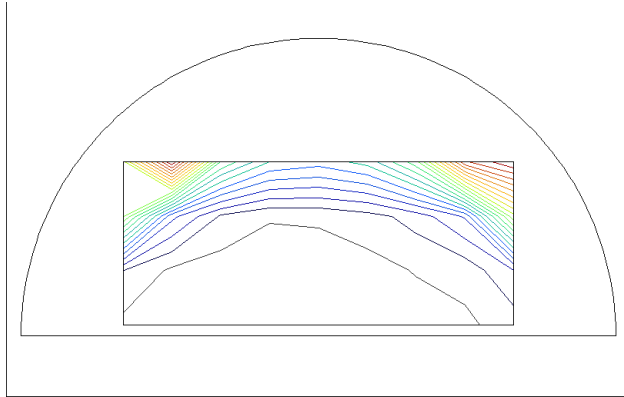

Figure 4-10: The Peak Table having Chosen Width (°)
- Choose the item you require from the submenu. In this example we chose “Width (°)” and the result is as shown in Figure 4-10.